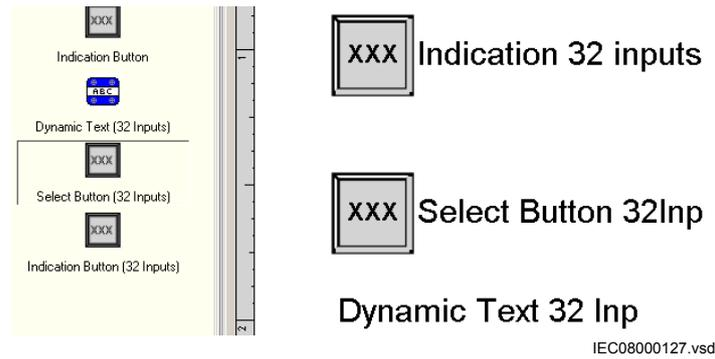

Figure 47: GDE: Dynamic Text symbols
- Select *Dynamic Text* and *Indication* to present the text for the actual value of the function block, see Figure 47.